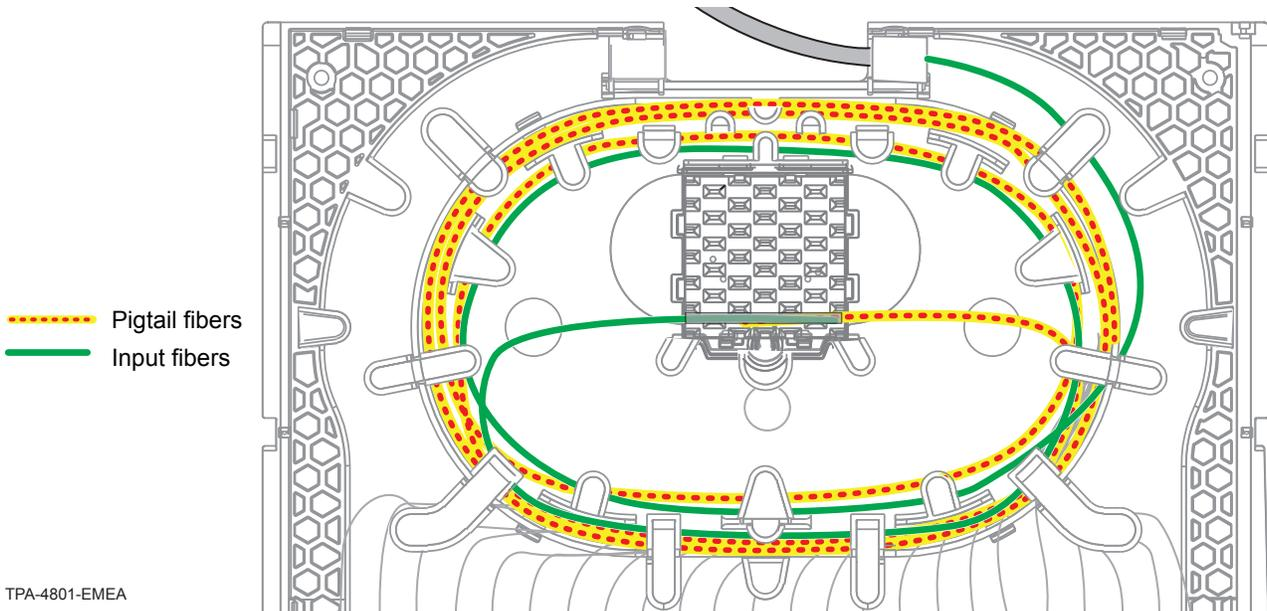

Figure 40
**Step 9:** Replace fibers in the cassette as previously routed before splicing (Figure 40).